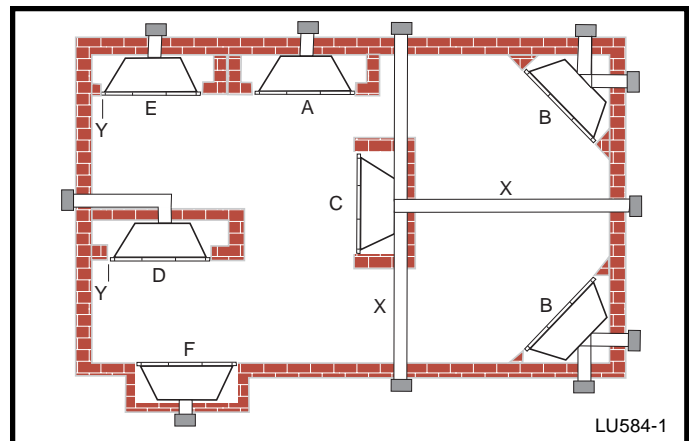

Fig. 1 Locating Gas Fireplace.
Note (Fig. 1):
** Island (C) and Room Divider (D) installation is possible as long as the horizontal portion of the vent system (X) does not exceed 20 feet (610cm). See details in Venting Section.
* When you install your Vermont Castings, Majestic Products fireplace in (D) Room divider or (E) Flat on wall corner positions (Y), a minimum of 6 inches (153mm) clearance must be maintained from the perpendicular wall and the front of the fireplace. See (Y) in Fig. 1.